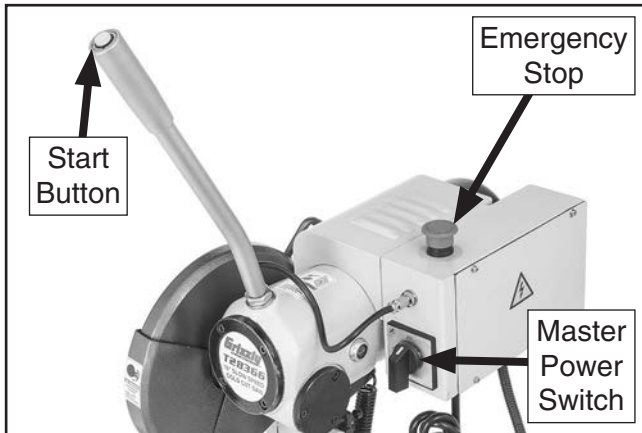

Figure 19. Location of machine power controls.
2. Press Emergency Stop button (see **Figure 19**).
5. Turn master power switch to "1" (ON) position (see **Figure 19**).